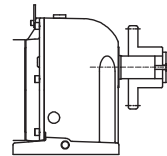

Fig.4 Sprocket installation
- (4) The tolerance for the holes of the sprocket, coupling, etc. should be H8. Smoothly install the sprocket, coupling etc. using the tap on the output shaft (refer to Fig.4)
- (5) Do not use any hammer for installation. Application of a large force may damage the bearing, gear, etc.